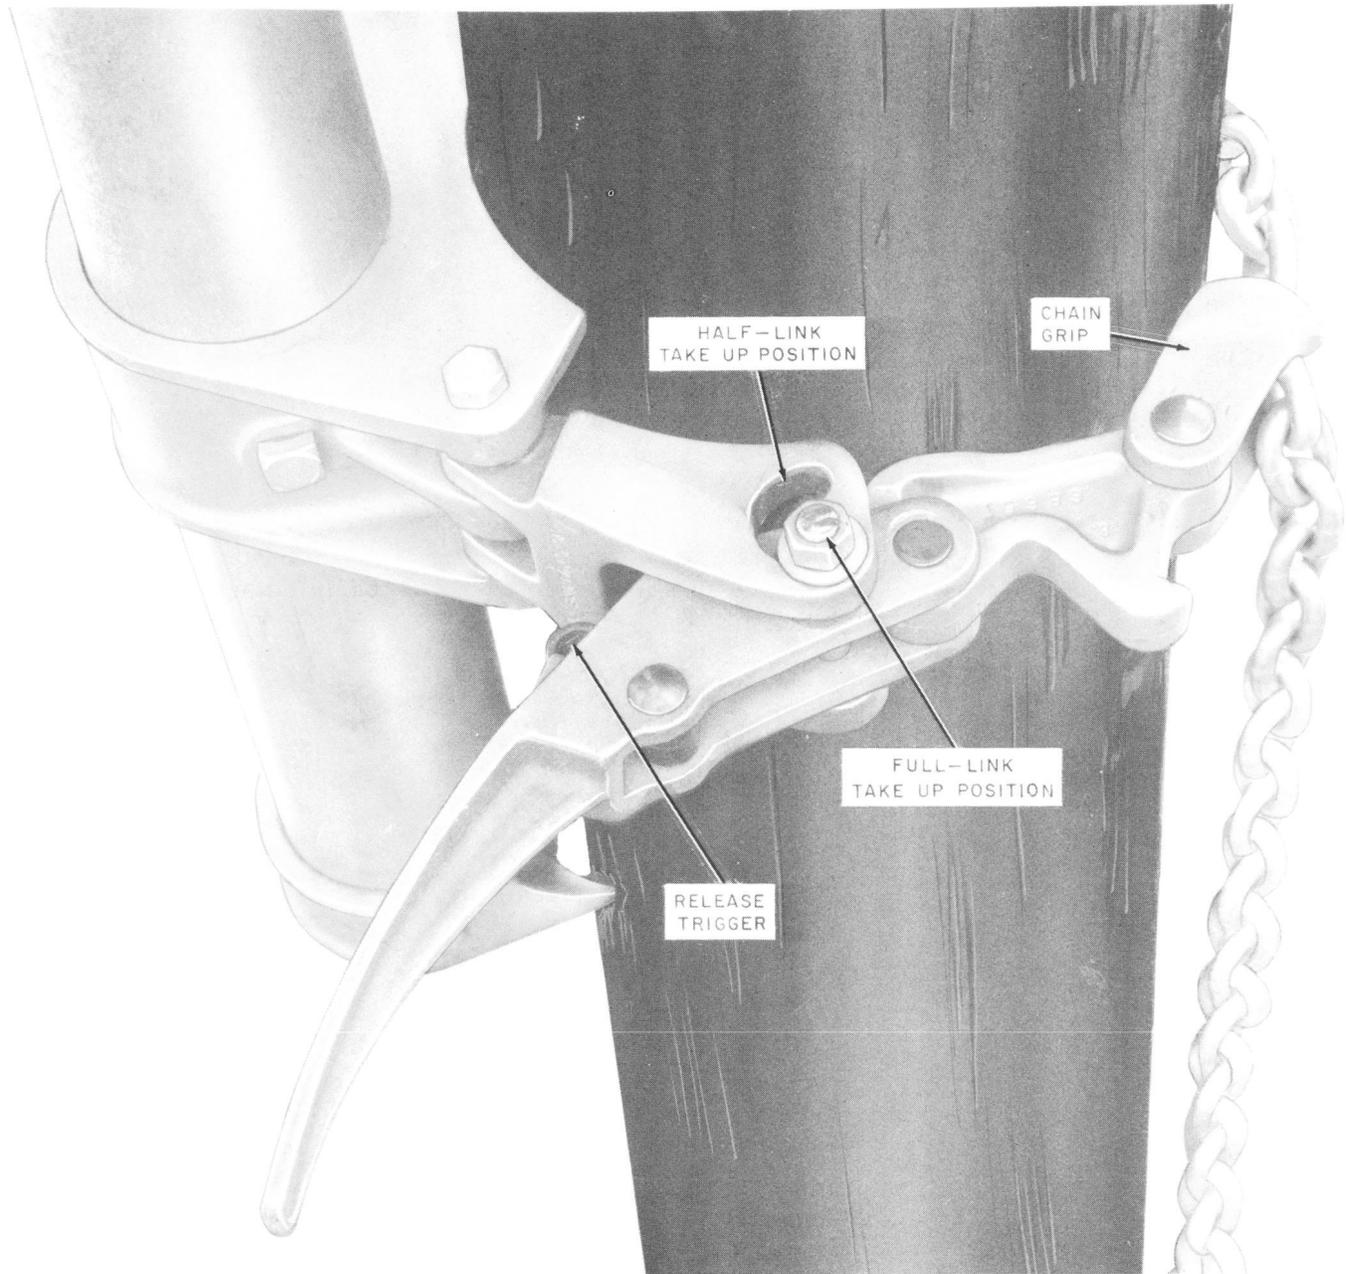

Fig. 2—Chain Binder in Open Position
4.01 Before placing the gin, the workman should be familiar with the operation of the locking chain tightener (Fig. 2 and 3).